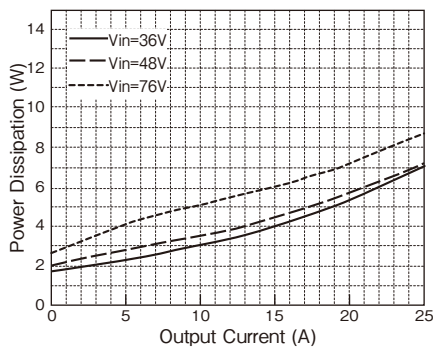

Fig.1-4 PAQ100S48-1R2/B Power dissipation vs Output Current (Output voltage: Nominal, Ta=60°C; typical value)
- 2) When the condition of input voltage and output voltage are different and it is impossible to determine power dissipation (Pd) from Fig.1-4 to 1-8, calculate power dissipation as follows.